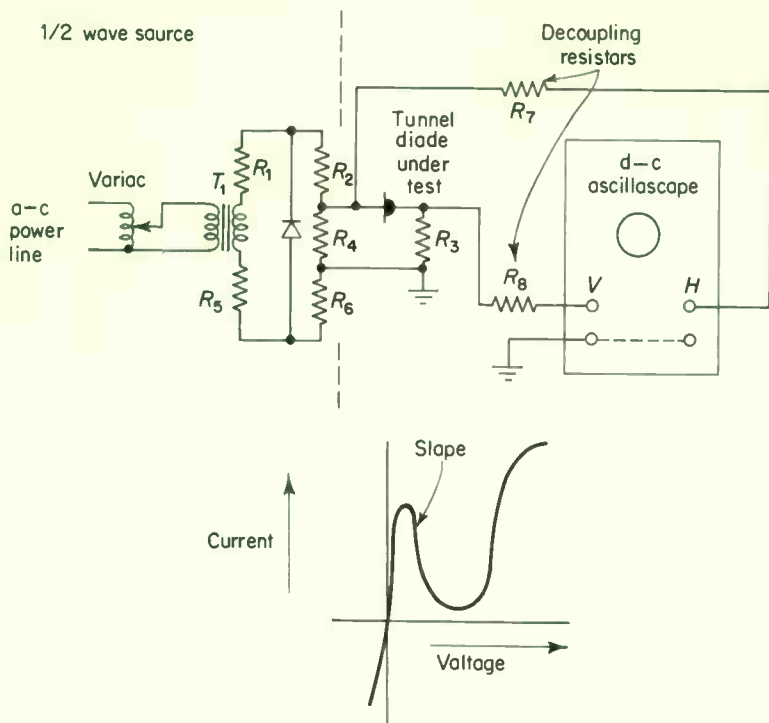

Fig. 9-8. Checking tunnel diode negative resistance characteristics.
As shown in Fig. 9-8, the tunnel diode is tested by applying a controlled d-c voltage across the diode, through resistor  $R_3$ . This d-c voltage is developed by rectifier  $CR_1$ , and is controlled by the variac. Current through the tunnel diode also flows through  $R_3$ . The voltage drop across  $R_3$  is applied to the vertical channel and causes the spot to move up and down. Therefore, vertical deflection is proportional to current. The vertical scale division can be converted directly to current when  $R_3$  is made 1 ohm. The indicated voltage value must be divided by 10 to obtain current. For example, a 3-volt vertical deflection indicates 0.3 amp.
1. Connect the equipment as shown in Fig. 9-8.